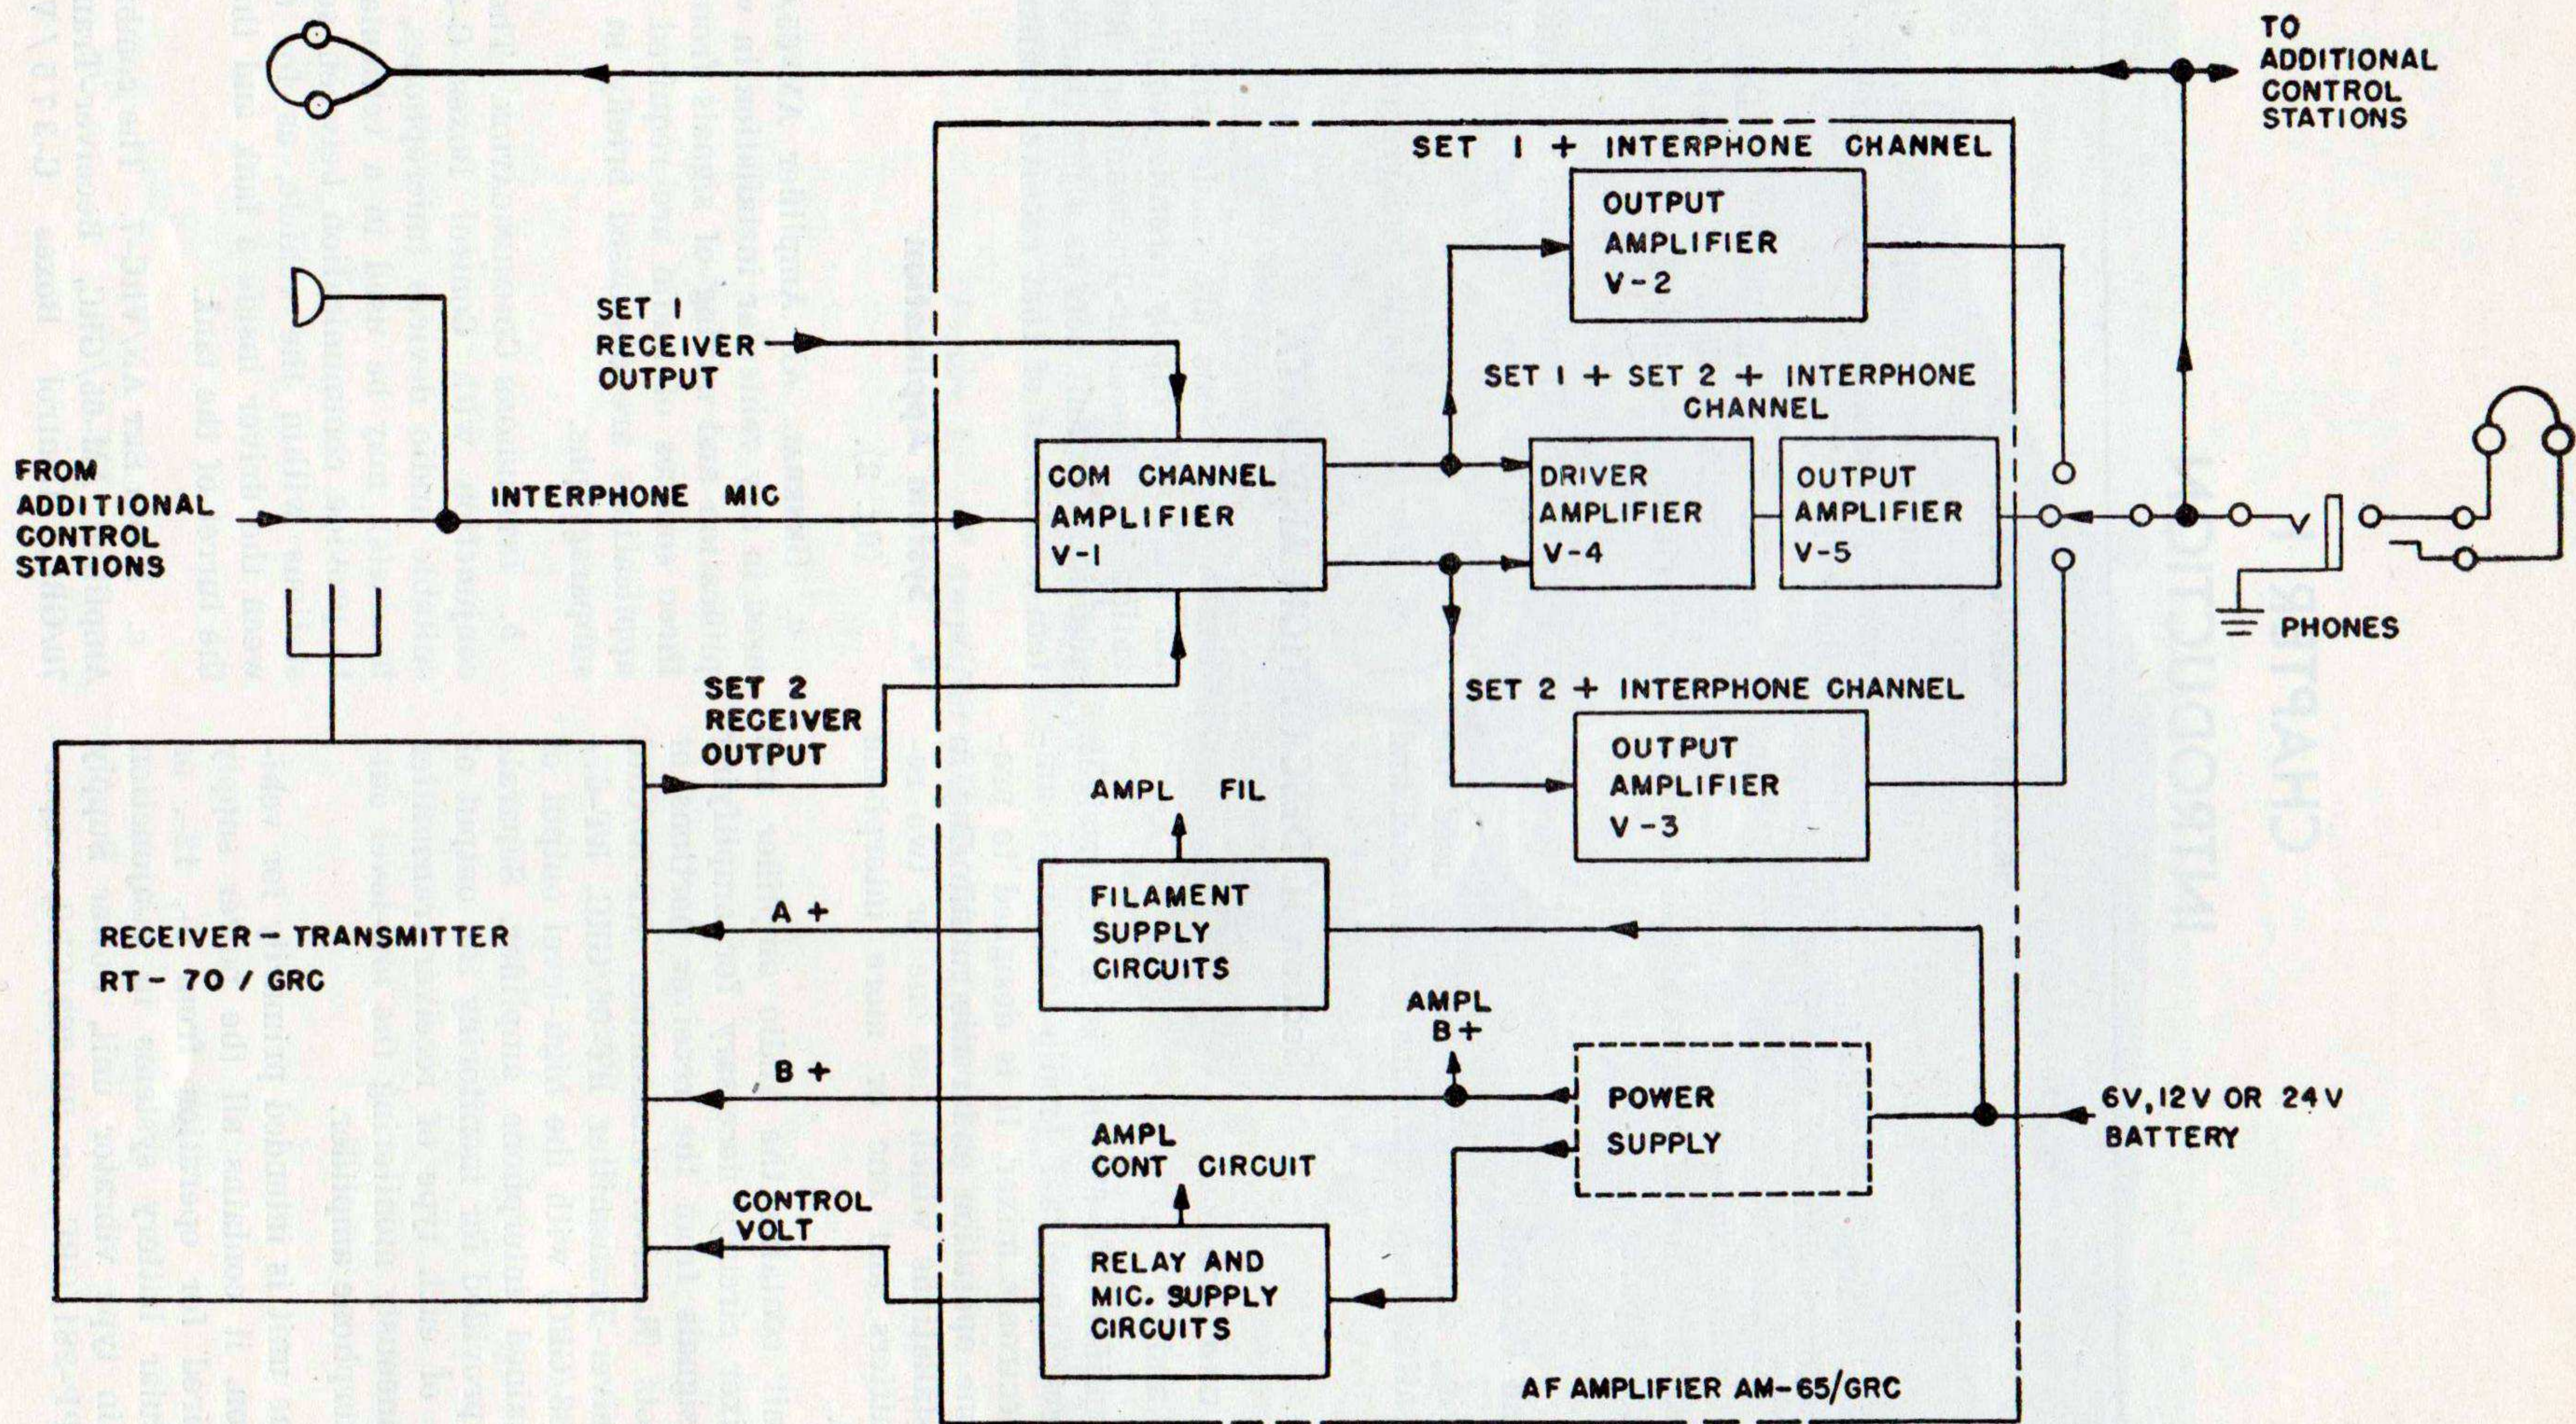

Figure 2. System application.
(fig. 2).
Supply PP-448/GR, PP-281/GRC, or PP-282/GRC, and suitable mountings, cables, audio accessories, and other installation components may be used in the radio installation known as Radio Set AN/VRC-7. Figure 2 is a functional block diagram of this set. In this arrangement, the amplifier provides an interphone channel between control stations, monitoring of the interphone channel and the receiver output of Receiver-Transmitter RT-70/GRC (Set 2), and all operating potentials for its own circuits and for those of the receiver-transmitter. These functions are described below.
(1) *Signal circuits.* Speech signals from the microphone, shown connected directly to the amplifier (fig. 2), or signals from any one of the control stations associated with the installation enter the common amplifier channel and are amplified there. Speech signals from the output of the receiver in Receiver-Transmitter RT-70/GRC (Set 2) enter the common channel amplifier over a separate path and are amplified also. (Set 1 is not used in Radio Set AN/VRC-7 and, therefore, does not enter into the discussion here.) An audio mixing arrangement associated with the common channel amplifier distributes the two signals at the proper levels to the three channels as follows: a portion of each of the two signals is routed to the Set 2 + Interphone channel, is amplified there, and appears at the output terminals of that channel; another portion of each of the two signals is routed through the Set 1 + Set 2 + Interphone channel and, after amplification, is made available at the output terminals of that channel. The arrangement of the audio mixer circuit is such that the Set 2 signal is blocked from entering the Set 1 + Interphone channel. However, the microphone signal, appearing at the output of the common channel amplifier, is permitted to enter the Set 1 + Interphone channel, is amplified there, and is made available at the output terminals of that channel. The signals appearing at the output terminals of the three channels may be monitored at any one of the control stations associated with the installation. The three-position switch, shown connected to the three-channel
d. RADIO SETS AN/GRC-3 THROUGH AN/GRC-8. These radio sets include all the components mentioned in c above and, in addition, one Receiver-Transmitter RT-66/GRC, RT-67/GRC, or RT-68/GRC. Also they may include one auxiliary Radio Receiver R-108/GRC, R-109/GRC, or R-110/GRC. By connecting either one of the receiver-transmitters or one of the receivers listed above to the Set 1 receiver output lead (fig. 2), the block diagram of figure 2 becomes representative of Radio Sets AN/GRC-3 through AN/GRC-8.
(1) *Signal circuits.* Speech signals from the microphone and from Set 2 enter the amplifier and are routed through the three channels (fig. 2), as described in c (1) above. Signals from Set 1 are applied to the common channel amplifier over a separate connection. After amplification, these signals are routed (together with the microphone signals) to both the Set 1 + Interphone and the Set 1 + Set 2 + Interphone channels. The Set 1 signals are blocked from the Set 2 + Interphone